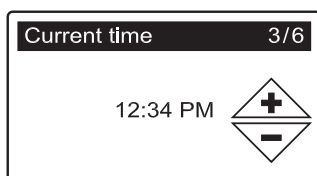

FIG. 10
5. **CURRENT TIME** Press the DOWN (▼) or UP (▲) buttons to set the current time (See Figure 10). Hold the button down to rapidly advance. Be sure that AM or PM is correct. If the system units were set to met-